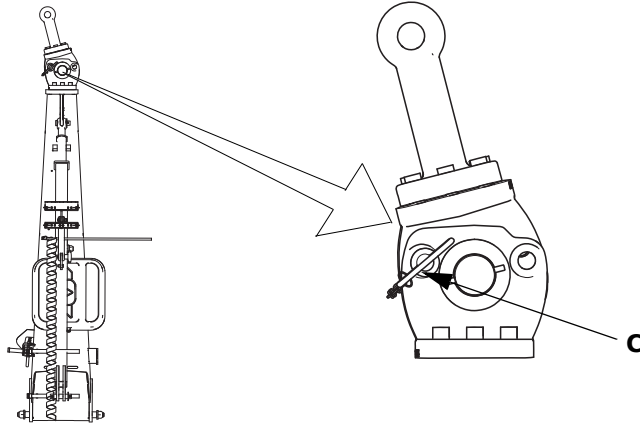

Figure 1.22 Drawbar in position 1, for drilling oilseed.
- 5 Fasten the pin (C) as in *"Figure 1.22"*.